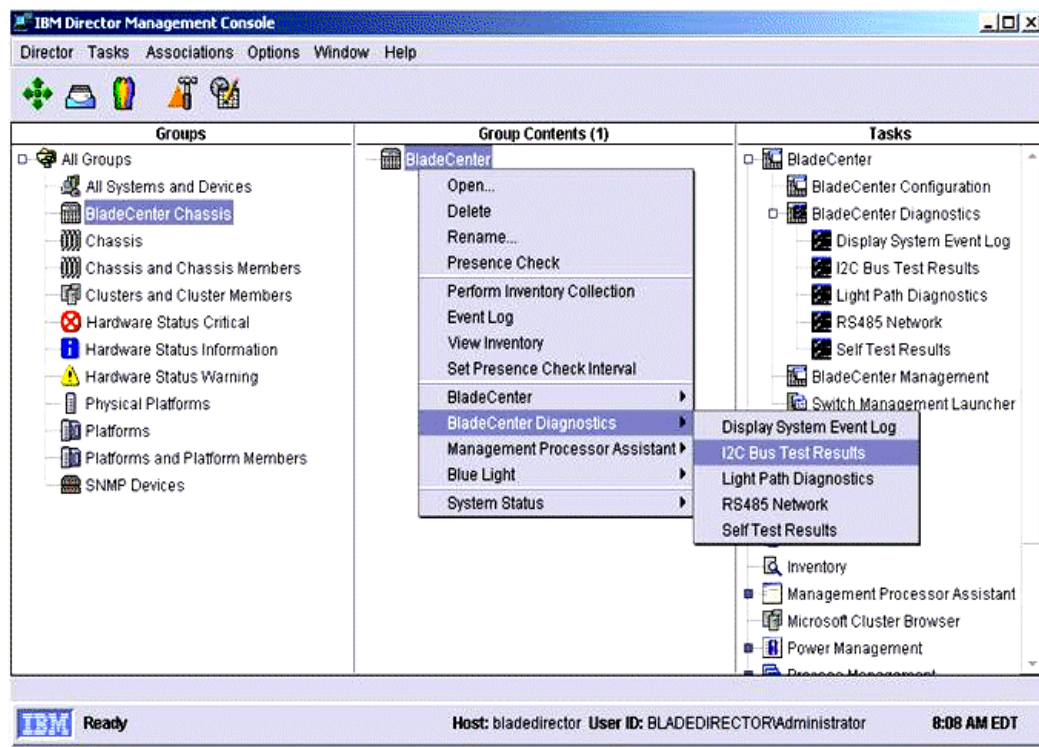

Figure 3-2 IBM Director Management Console
1. On your BladeCenter chassis in the Group Contents frame, right-click and scroll down the menu to BladeCenter Diagnostics; select the required diagnostic as shown in Figure 3-2.